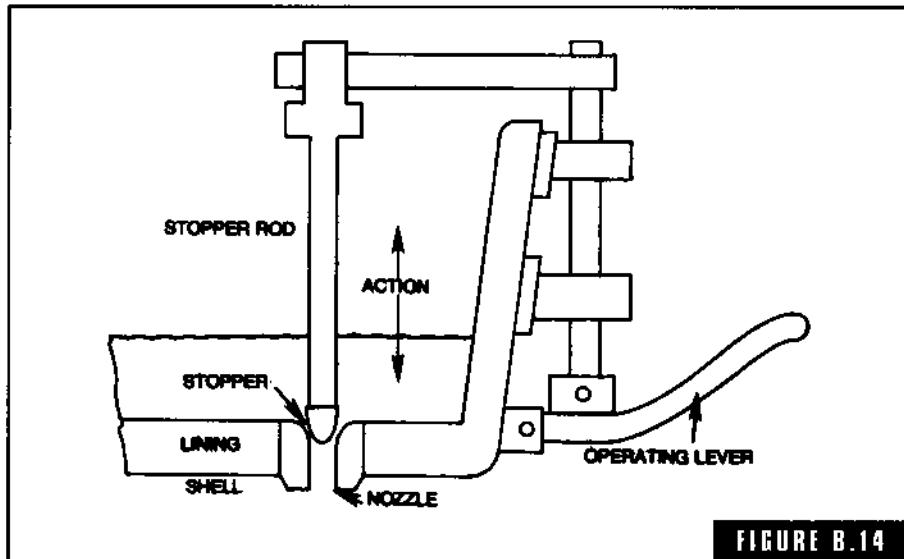

FIGURE B.14
**bessemer ladle** A steel ladle lined with refractory material and having one or more stopper and nozzle systems for bottom pouring (Fig. B-14). The stopper is attached to the end of the stopper rod, which is insulated with refractory sleeves. The stopper plug is seated in the nozzle when closed. The nozzle is opened to pour or teem by raising the stopper rod by a lever attached to the outside of the ladle and the top of the stopper rod.